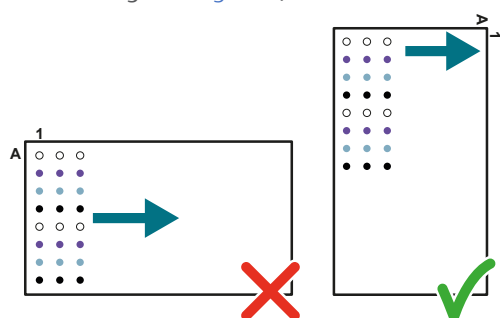

Figure 6. Rotating the Sample Reagent Plate
**NOTE:** Rotate the Sample Reagent Plate (384-well) 90 degrees clockwise to facilitate pipetting (shown to the right of Figure 6).